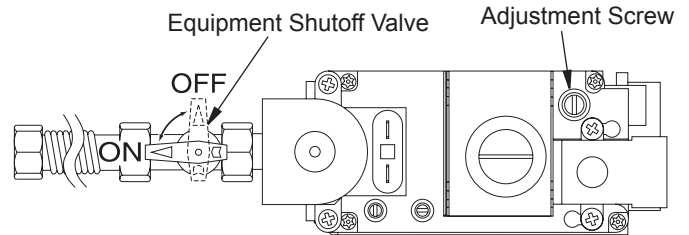

Figure 49 - Turning Equipment Shutoff Valve to the OFF Position
5. Turn equipment shutoff valve clockwise to the OFF position (see Figure 49). Do not force.
6. Wait five (5) minutes to clear out any gas. Then smell for gas, including near the floor. If you smell gas, STOP! Follow "B" in the safety information above. If you don't smell gas, go to the next step.
- Turn the adjustment screw marked PILOT clockwise to decrease or counterclockwise to increase the flame to proper size (see Figure 49, page 23). Do not remove the adjustment screw.